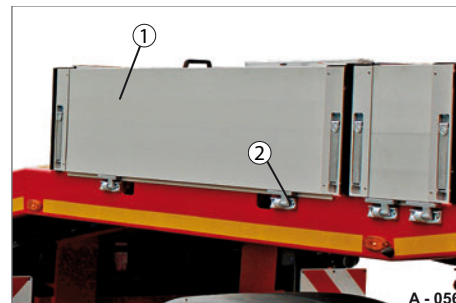

Fig. 51 Platform gate secured in hinge
- ▶ Fasten the screw (Fig. 51/2) into one of the hinges.
- ▶ Close the platform gate (Fig. 51/1) and lock the hand lever locks.